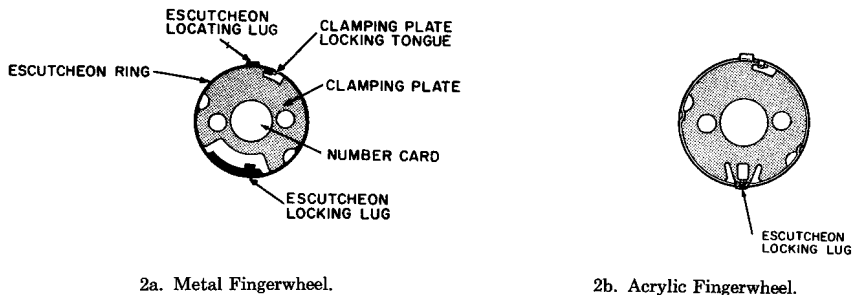

FIGURE 2. Escutcheon Disassembly, A.E. Co. Fingerwheels.
2.03 To take apart the metal escutcheon assembly from an A.E. Co. fingerwheel in order to install or change the number card, hold the assembly, rear side up, with the fingers of both hands and press on the clamping plate with the thumbs adjacent to the semicircular indentations on its edge (see Figure 2). Rotate the plate counter-clockwise until the indentations clear the ridges formed into the edge of the escutcheon ring, at which time the locking tongue will also